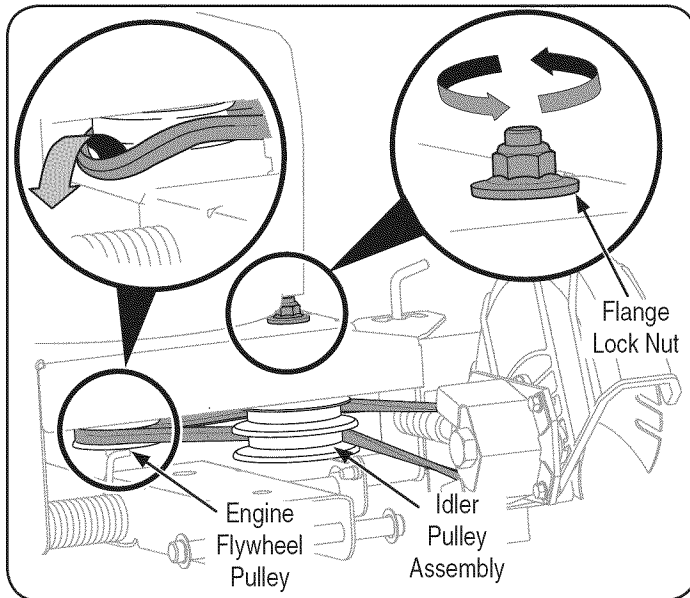

Figure 17
NOTE: To aid in reassembly, note the orientation of the drive belt on the two idler pulleys and the engine flywheel pulley prior to performing the following steps. Refer to Figure 17.
1. Working in front of the edger, loosen the flange lock nut on top of frame, allowing the idler pulley assembly to pivot slightly out from the frame. See Figure 17.
2. With your other hand, carefully reach under the rear of the edger and remove the belt from around the engine flywheel pulley. See Figure 17.